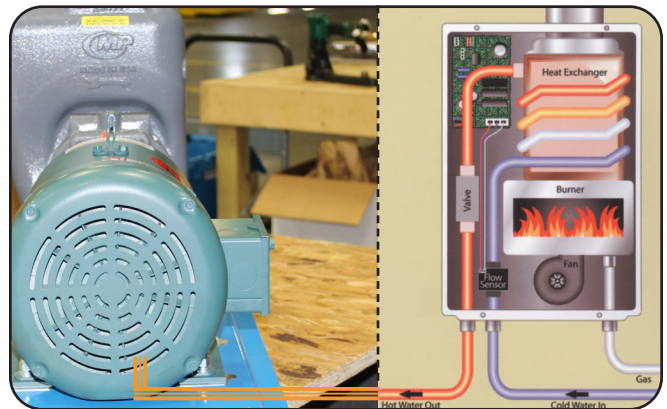

figure 2
5. Run a 3/4" hose from the water heater outlet to the Pump Station inlet solenoid. **(Fig. 2)**
1. Manually fill storage tank with clean water. (Fig. 2)